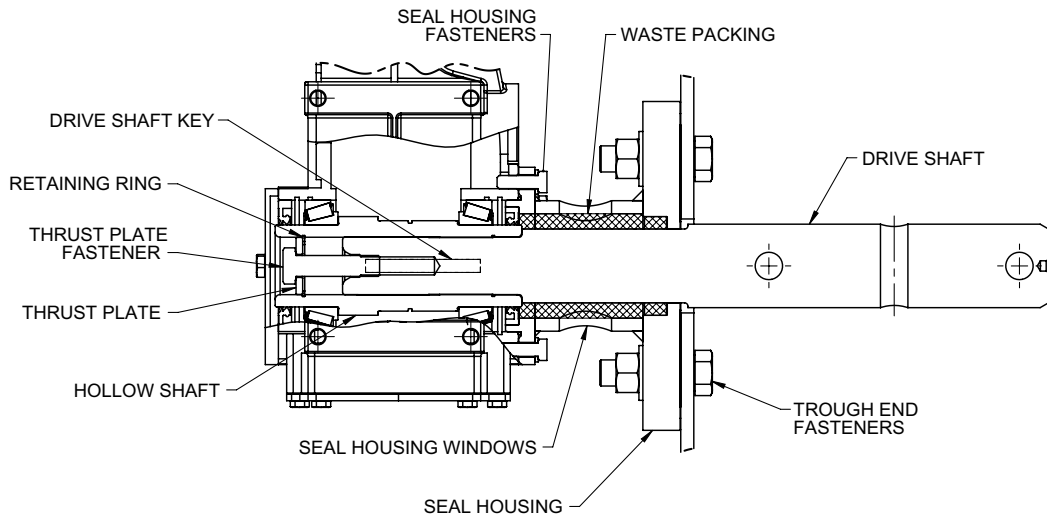

Figure 11
- Waste Packing Seal (Figure 11) — Slide drive shaft through seal housing. Insert key into drive shaft. Align drive shaft key with keyway in hollow shaft and slide drive shaft into hollow shaft. The seal housing has a register fit with the basic drive. Install drive shaft thrust plate fastener through thrust plate and torque to the value specified in Table 5. Install seal housing fasteners to secure seal housing to basic drive housing. Refer to Table 7 for proper torque value. Pack seal housing with waste packing through seal housing windows. Proceed to Step 2.
1. If drive is to be removed from drive shaft, remove seal housing fasteners as illustrated in Figure 11, Page 7. If drive is to be removed with drive shaft attached, remove trough end mounting fasteners and drive shaft coupling fasteners. Remove assembly from trough.
- (a) Waste Packing Seal (Figure 11, Page 7) — Remove key from drive shaft keyway. Remove waste packing material and remove seal housing toward tapered end of drive shaft.